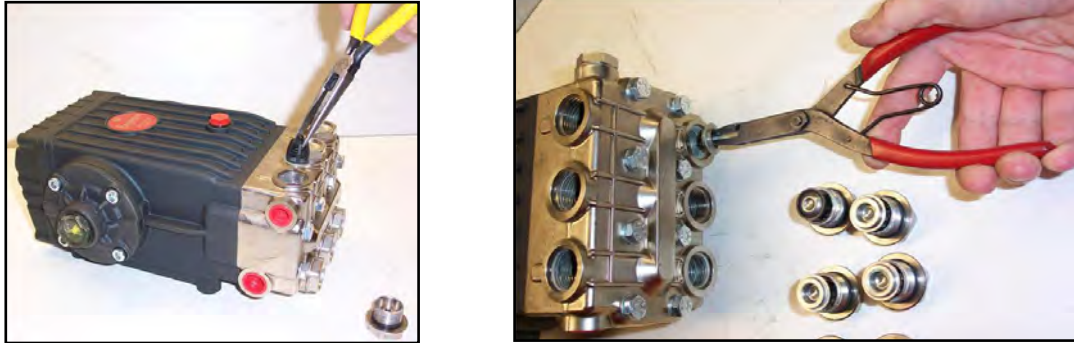

Figure 1. Remove Valve Cap and Valve Assembly
1. Remove the valve cap and extract the valve assembly (see Figure 1).